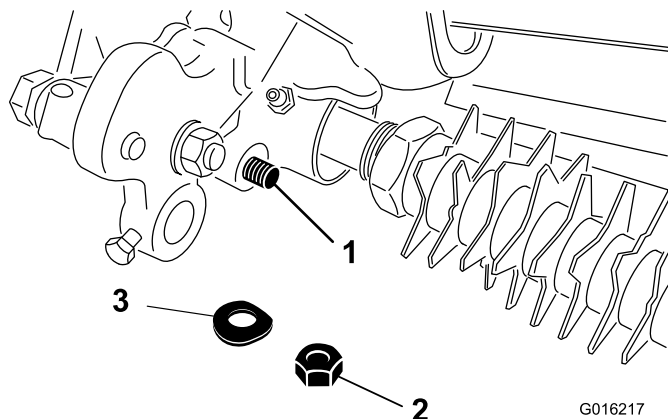

Figure 11
23. Secure the adjuster-arm assembly-rod end to the groomer drive assembly with a Belleville washer and locknut (Figure 11).
28. Secure the adjuster-arm assembly-rod end to the groomer drive assembly with a Belleville washer and locknut (Figure 11).